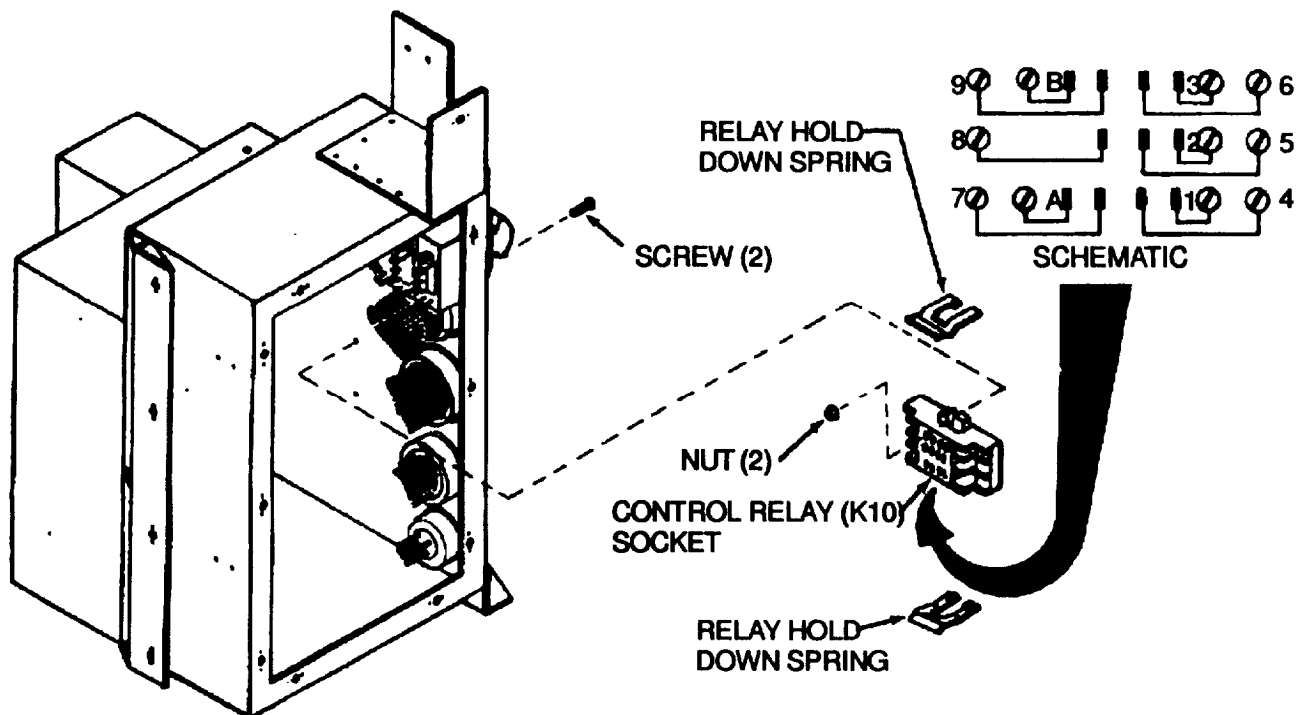

Figure 4-72. Control Relay (K10) Socket
(2) If relay fails above tests, replace relay.
(3) Using a multimeter and schematic shown on Figure 4-72, check continuity between contacts and terminals of control relay socket.